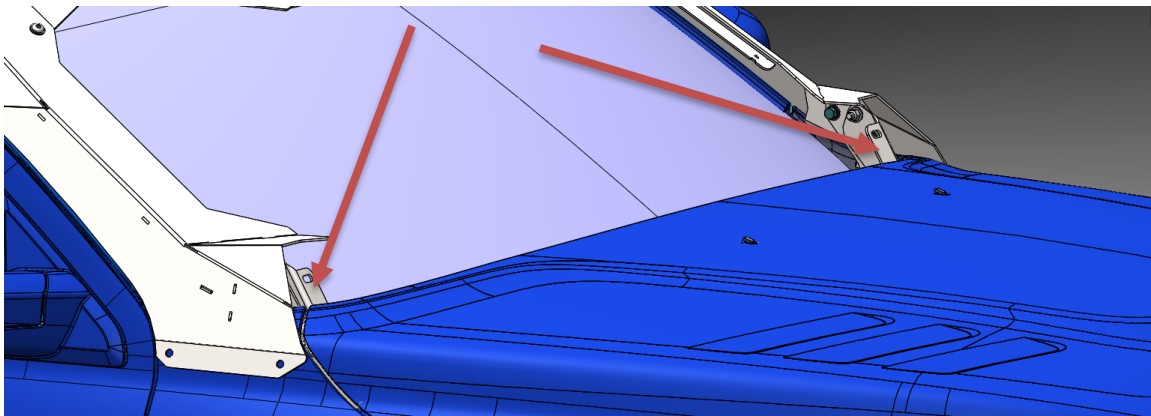

Fig 17
- p. With the help of a friend, lift the ViCowl cowl up over the hood and slowly lower it down on the mounting surface as shown in **Fig 17** indicated by the red arrows.